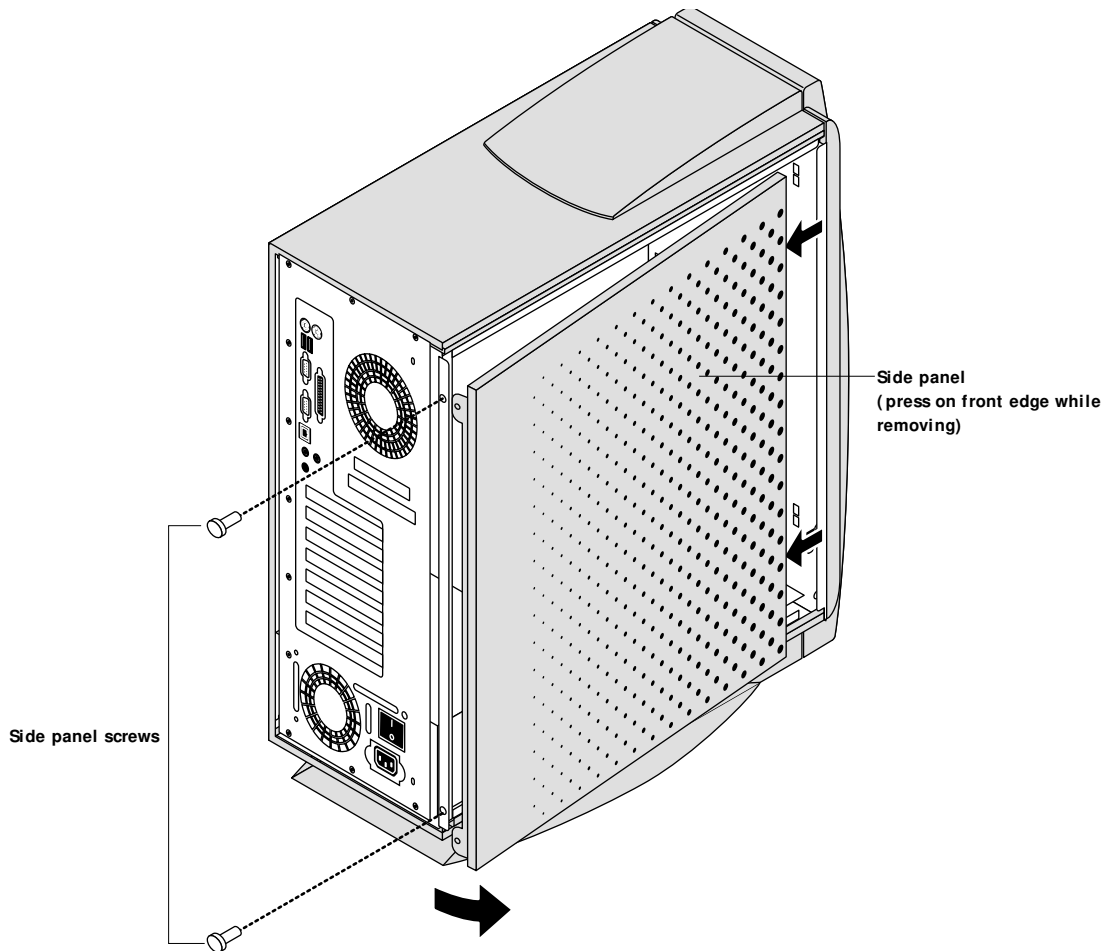

FIGURE 4-3 Removing the E-800A side panel
3. Lift off the side panel (see Figure 4-3).